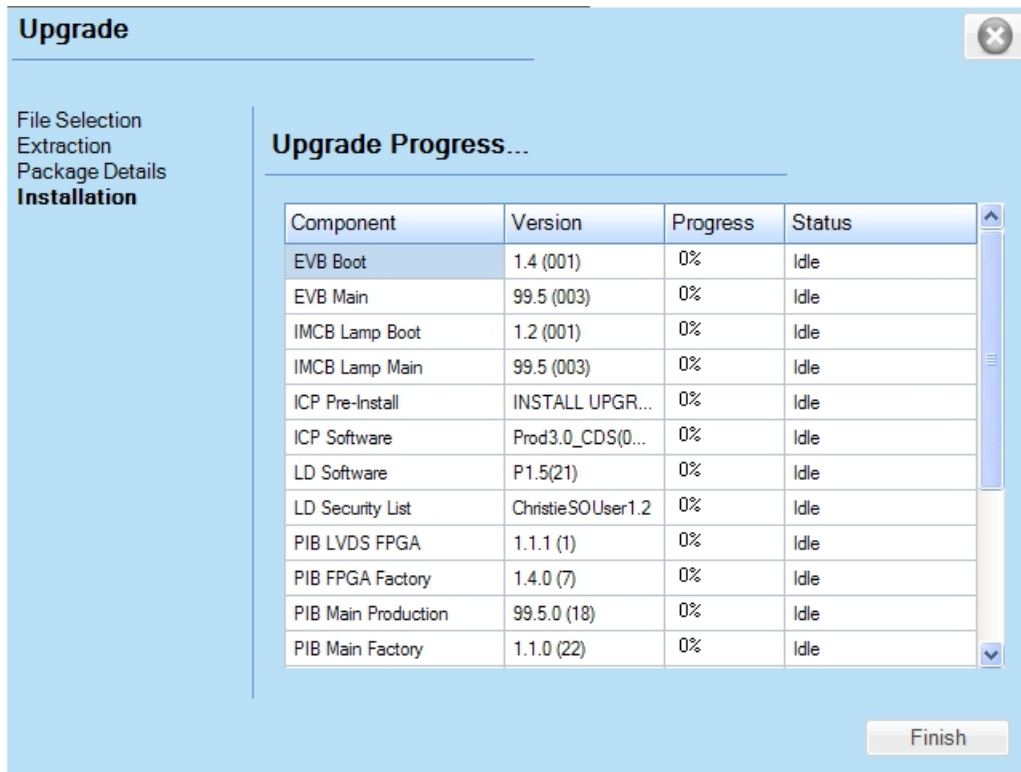

Figure 3-55 Upgrade: Installation Window
4. The **Installation** window displays the state of the upgrade progress. (Figure 3-55). On successful completion or failure of the installation, a dialog will display indicating the state of the upgrade. Click the **OK** button. At this point, the TPC will reboot in order to install the TPC user interface software. The TPC will shut down, reboot, and display an install progress window as the user interface is installed. Once complete, click the **Finish** button to return to the **Main** panel.